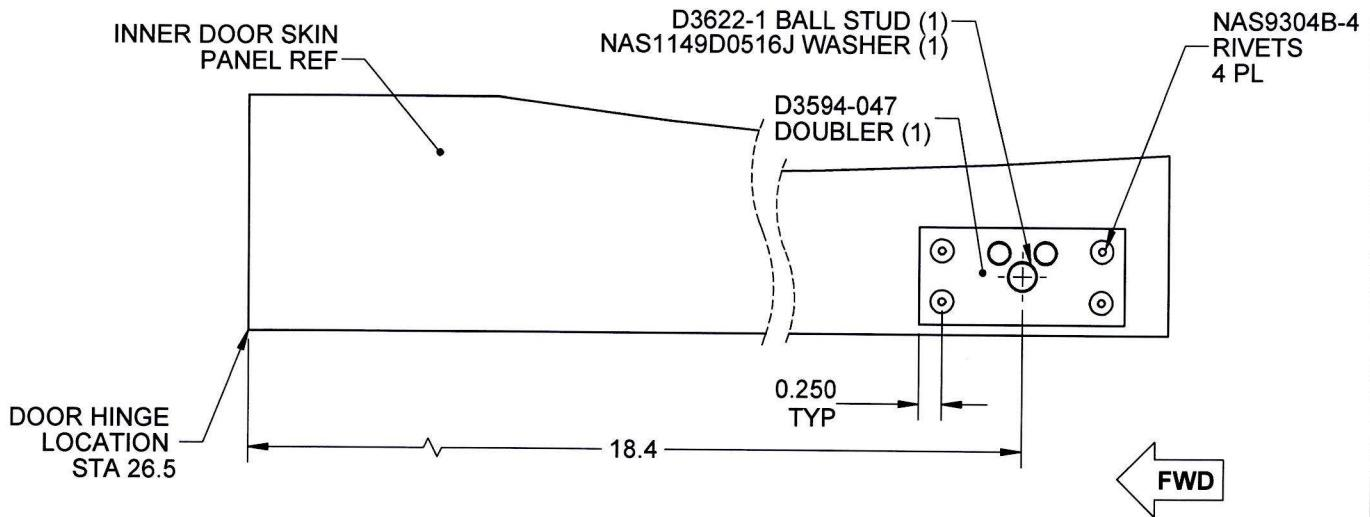

FIGURE 2- INSTALLATION OF D3594-047 DOOR DOUBLER
2. Locate the D3594-047 Door Doubler on inner door skin, per Figure 2 of this DSI. Make sure location of door doubler is marked on door skin.